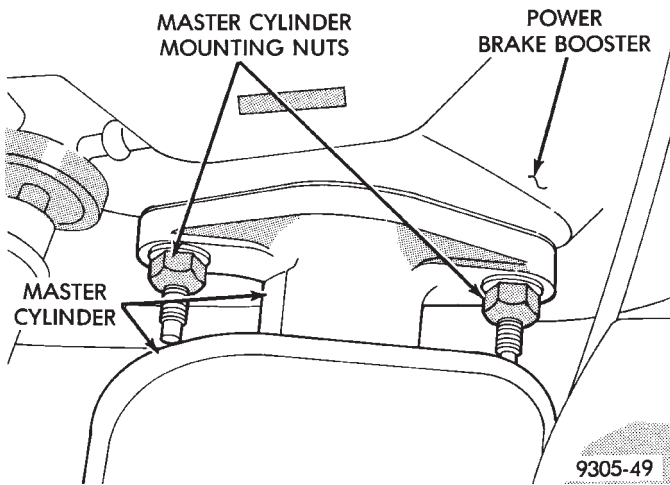
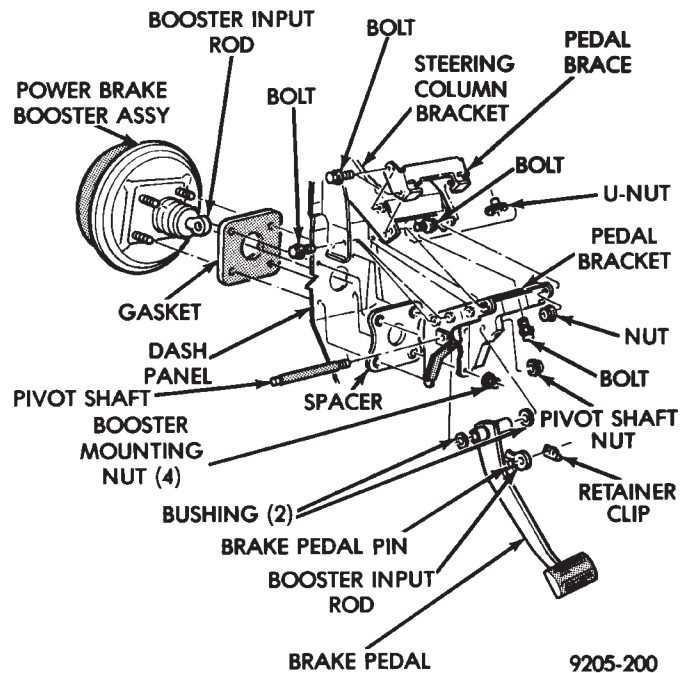

Fig. 3 Master Cylinder Mounting
Fig. 4 Power Brake Booster Mounting
- (1) Remove both wiper arm assemblies.
- (2) Remove cowl panel cover from cowl to expose windshield wiper module.
- (3) Remove the 5 screws attaching the windshield wiper module to the dash panel. Remove the windshield wiper module from dash panel.
- (4) Remove the 2 nuts (Fig. 3) attaching master cylinder assembly to power brake unit.
- (5) Carefully slide master cylinder off mounting studs with brake lines attached, and allow the assembly to rest against left shock tower.
(7) From under instrument panel, position a small screwdriver between the center tang on the power brake booster input rod to brake pedal pin retaining clip.
(8) Rotate screwdriver enough to allow retainer clip center tang to pass over end of brake pedal pin and pull retainer clip off pin. **Discard retainer clip it is not to be reused, replace only with a new retainer clip.**
(9) Remove the four nuts that attach the power brake booster to the vehicle dash panel. Nuts are accessible from under the dash panel in the area of the steering column and pedal bracket (Fig. 4).
- (1) Position power brake booster onto dash panel.
- (2) Install and tighten the 4 power brake booster to dash panel mounting nuts (Fig. 4) to 29 N•m (250 in. lbs.) torque.
- (3) Carefully position master cylinder on power brake unit.
- (4) Install and tighten the 2 master cylinder to power booster mounting nuts (Fig. 3) to 29 N•m (250 in. lbs.) torque.
- (5) Connect vacuum hose onto the check valve, located on the power brake unit.
- (7) Using lubriplate, or equivalent, coat the bear-
ing surface of pedal pin (Fig. 4).